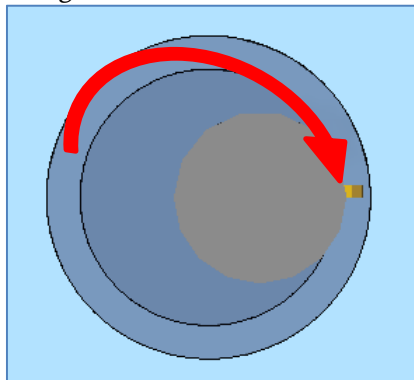

Fig. 6-4
- block N370 the mill exits the thread with an arc of 180° translating a half pass (**Fig. 6-4**),